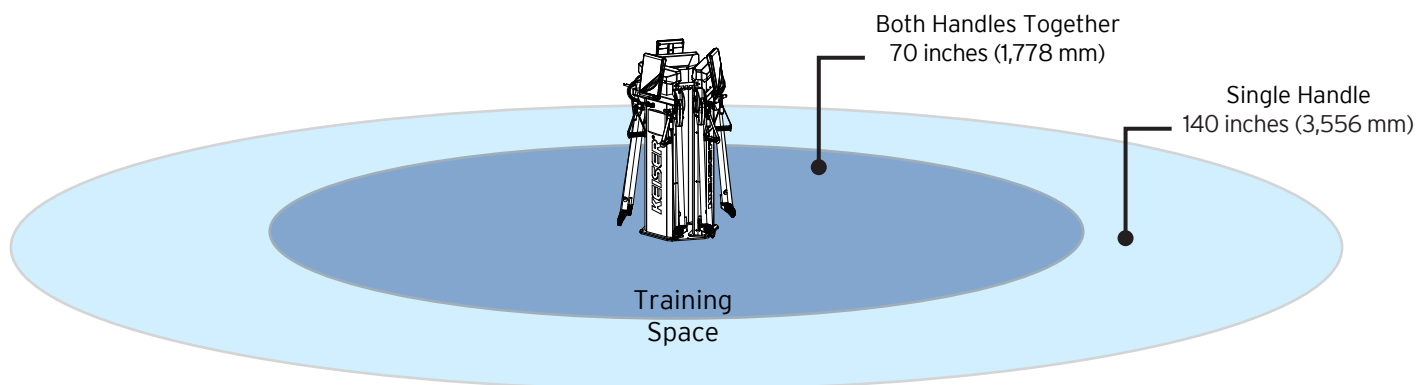

Figure 2. Triple Trainer Training Space Illustration
2. **Mark your Cable Max Limit:** Secure your Cable Accessory to the Cable. Walk your Cable Accessory out until the stop is reached. This is your Cable Max Limit. Place a marker on the floor (i.e. tape, keys, or a water bottle) to indicate your Cable Max Limit (see Figure 2).